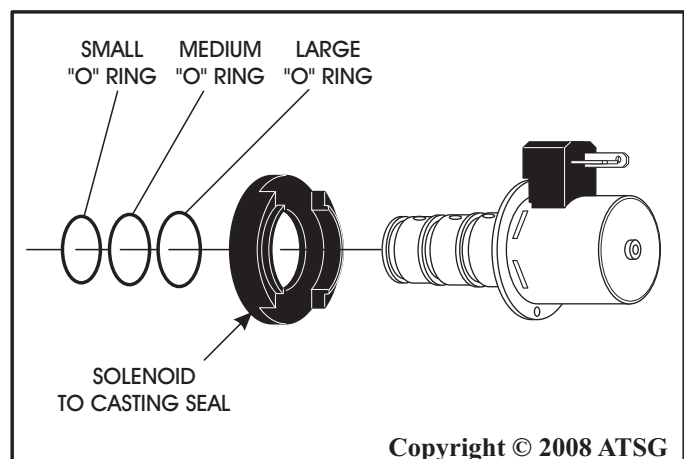

Figure 167
11. Install new solenoid to solenoid body casting seal, as shown in Figure 167, on all solenoids.
12. Install 3 new "O" rings on each solenoid, as shown in Figure 167, and notice there are three different sizes for each solenoid.